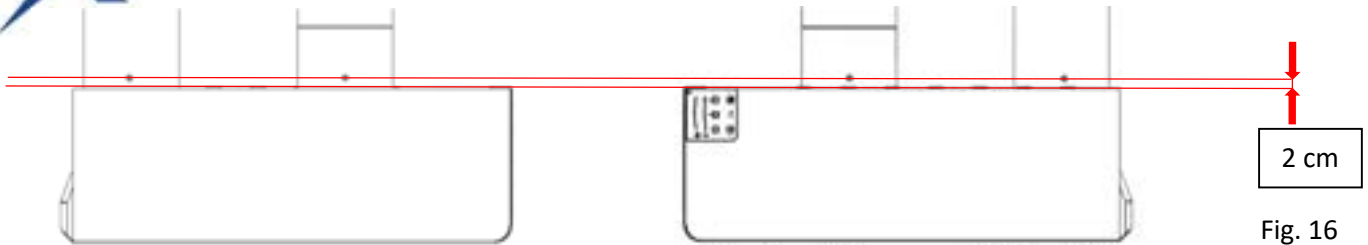

Fig. 16
- Secure the installed piping with self-tapping bolts  $\varnothing 4 \times 22$  mm (part of the mandatory accessories delivery – box 2) against each other as shown in Fig. 15 – 4, at a distance of 20 mm from the edge of the unit, see Fig. 16.
- Secure the installed piping with self-tapping bolts  $\varnothing 4 \times 22$  mm against each other as shown in Fig. 15 – 4, at a distance of 20 mm from the edge of the unit, see Fig. 16.